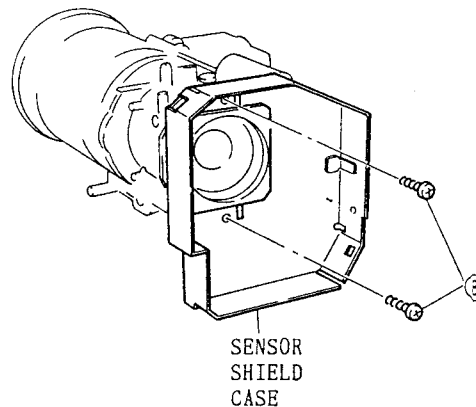

Fig. 2-102
8. Remove two (2) screws holding the sensor shield case. (See Fig. 2-102)